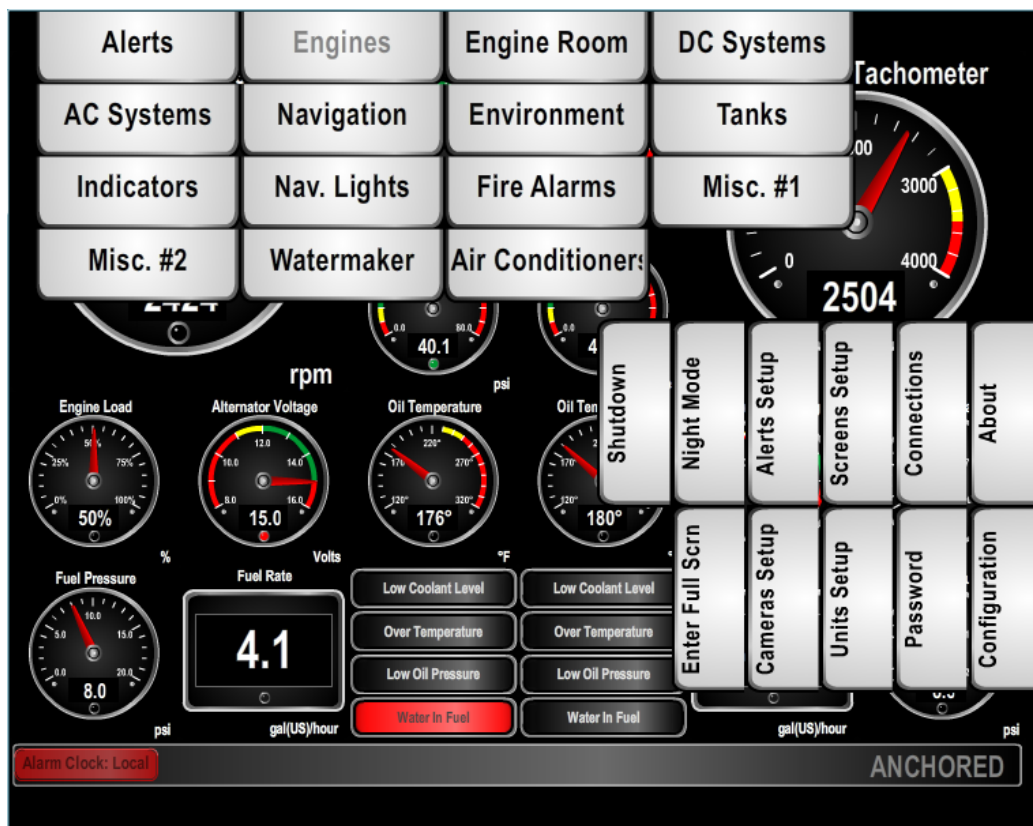

Figure 14 – N2KView® Window with Tabs Displayed
- Click anywhere inside the N2KView® screen to display the screen tabs as shown in Figure 14 above.